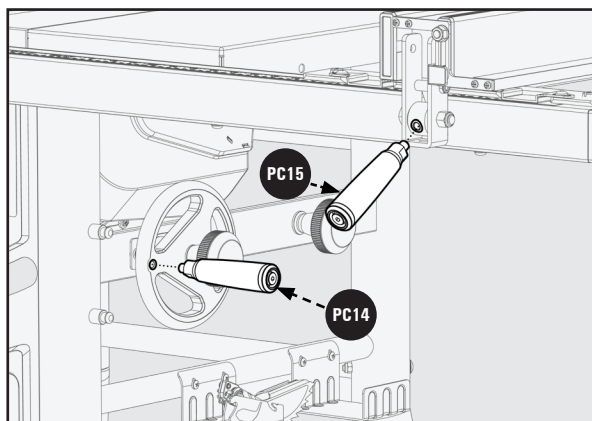

Figure 18
2. Insert one Handle (PC14) to the Bevel Hand Wheel located on the right side of the Saw, as seen in Figure 18.
1. Screw the Labeled Handle (PC15) to the Rip Fence with the supplied Hex Wrench. See in Figure 18.